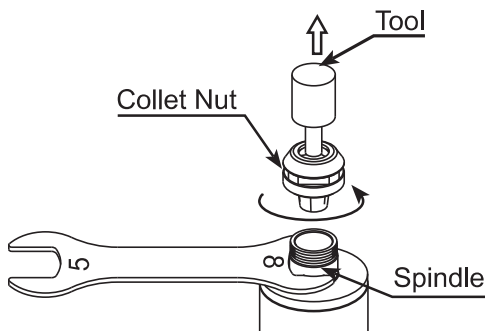

Fig. 21
- (1) Remove the tool according to the section 11 "CHANGING TOOLS" procedure above and remove collet nut assembly. (Fig. 21)